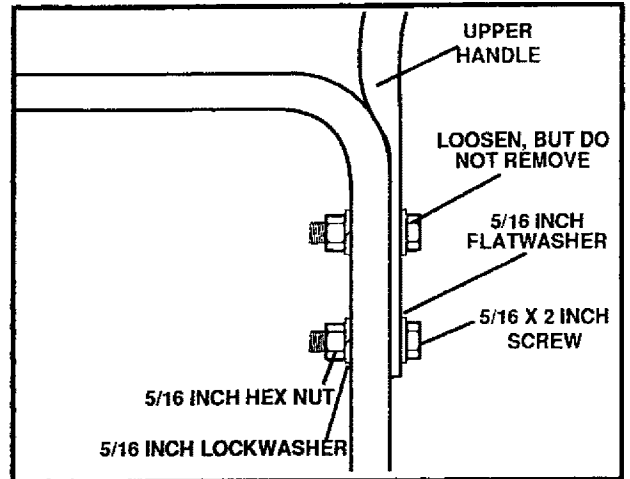

FIG. 4
- Loosen, but do not remove, the screws, flatwashers, lockwashers, and hex nuts in the upper holes of the lower handle (See FIG. 4).
- Using the hardware (screws, flatwashers, lockwashers, and hex nuts found in parts bag) attach the upper and lower handle in the lower holes. Do not tighten until all screws are in place (See FIG. 4).